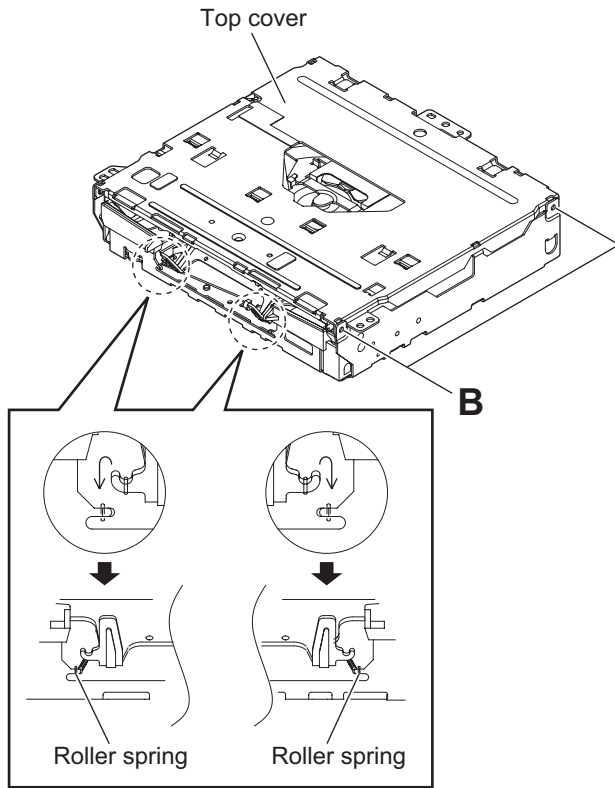

Fig.3
### 3.2.2 Removing the top cover (See Fig.3 to 5)
- From the front side of the CD MECHANISM assembly, change the hook position of the two roller springs. (See Fig.3.)
- From the side of the CD MECHANISM assembly, remove the six screws **B** attaching the top cover. (See Fig.3 and 4.)